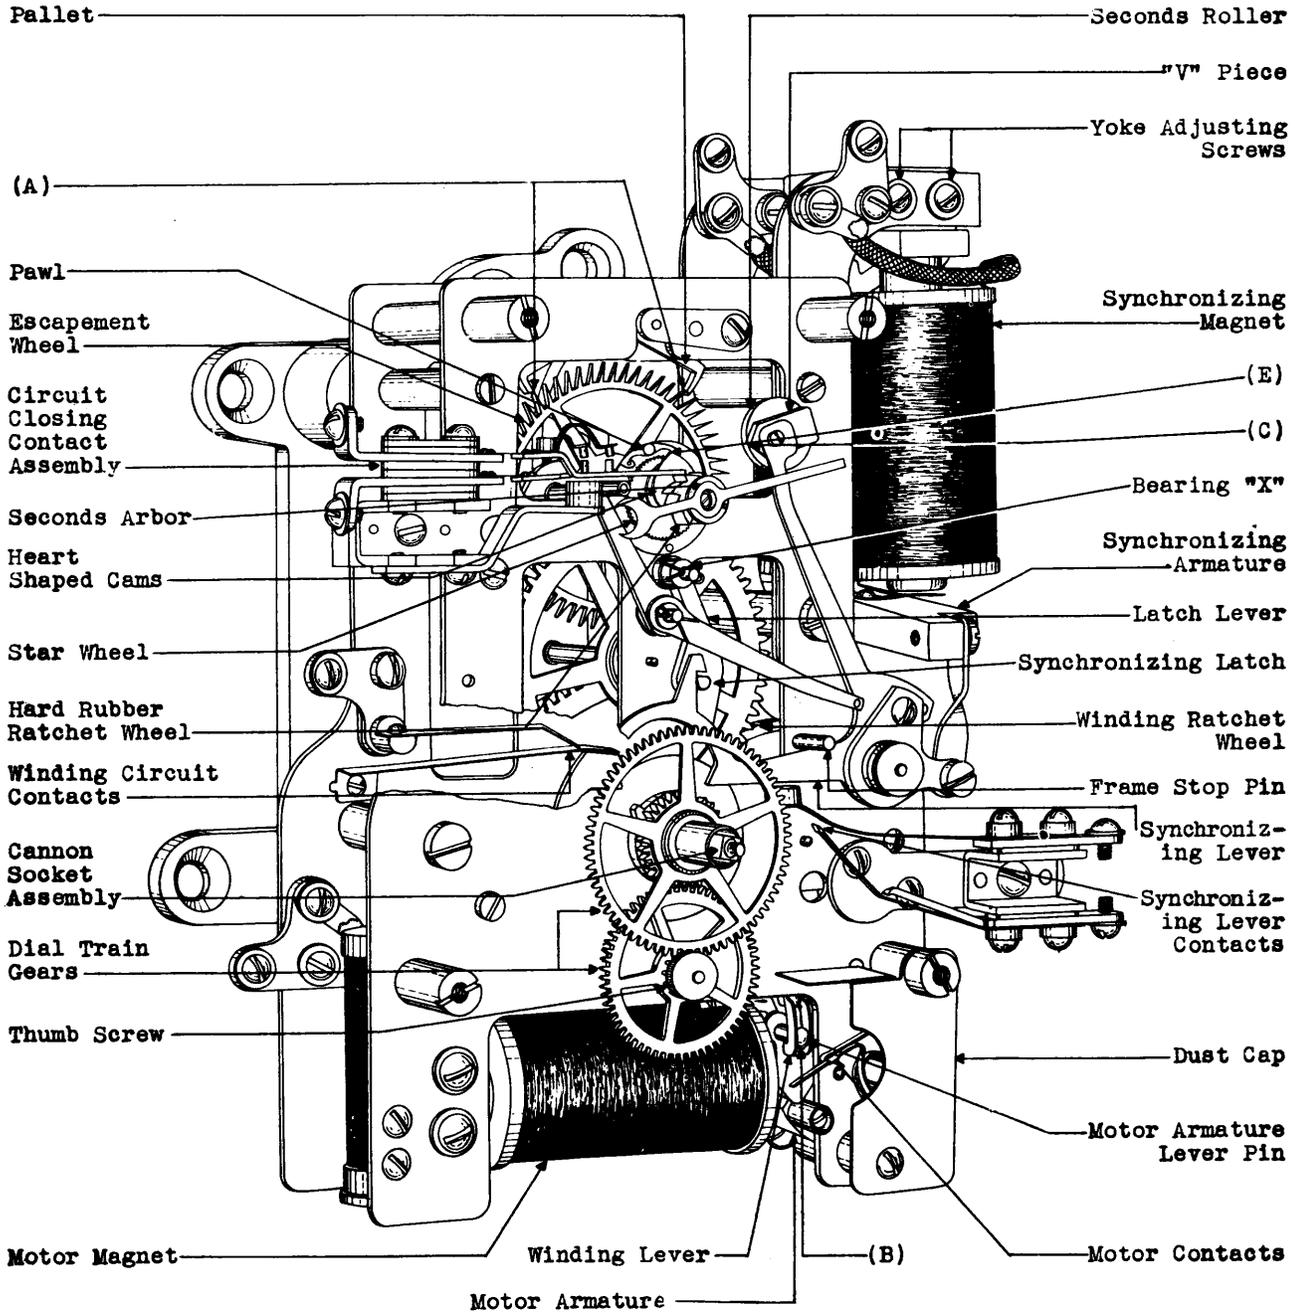

Fig. 1 - General Assembly of typical Mechanism
Both points of contact between the escapement wheel and pallet - Fig. 1 (A).
The point of contact between the motor armature lever pin and the winding lever - Fig. 1 (B).
Each bearing of the synchronizing mechanism - including the seconds roller bearing - except bearing "X" - (Fig. 1).
Point of "v" piece - Fig. 1 (C).
Rim of each of the two heart shaped cams - Fig. 1 (D).
Point of contact between star wheel ratchet and pawl - Fig. 1 (E).